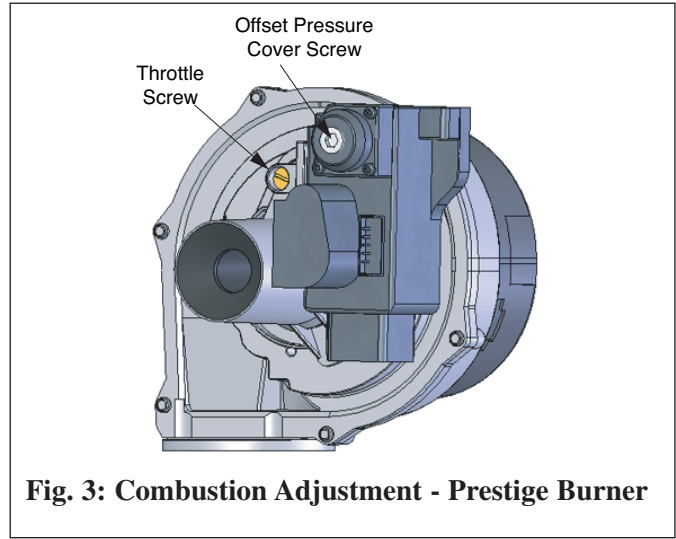

Fig. 3: Combustion Adjustment - Prestige Burner
eters adjust the THROTTLE SCREW (see Fig. 3) using a flat-blade screwdriver as follows:
5. If the combustion readings during low fire are not within $\pm 0.2\%$ of the combustion level measured at high fire, remove the offset cover screw and adjust the plastic OFFSET SCREW (see Fig 3) using a T-40 Torx wrench as follows: